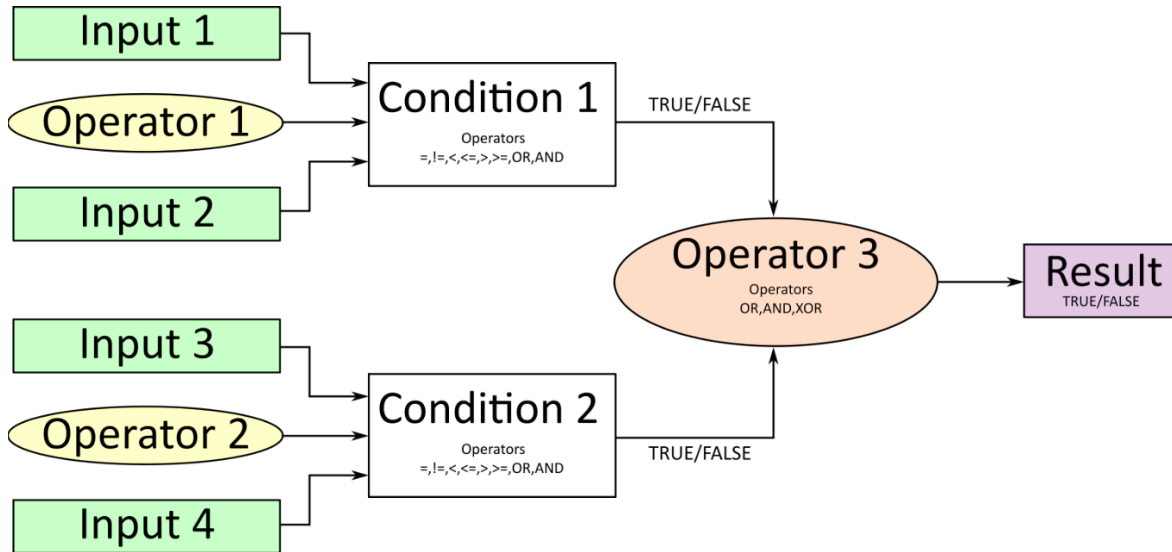

Figure 5 – Conditional Block Diagram
The Conditional Block compares up to four different input sources with different logical or relational operators. The result of each block can therefore only be true (1) or false (0). Figure 5 demonstrates the connections between all parameters.